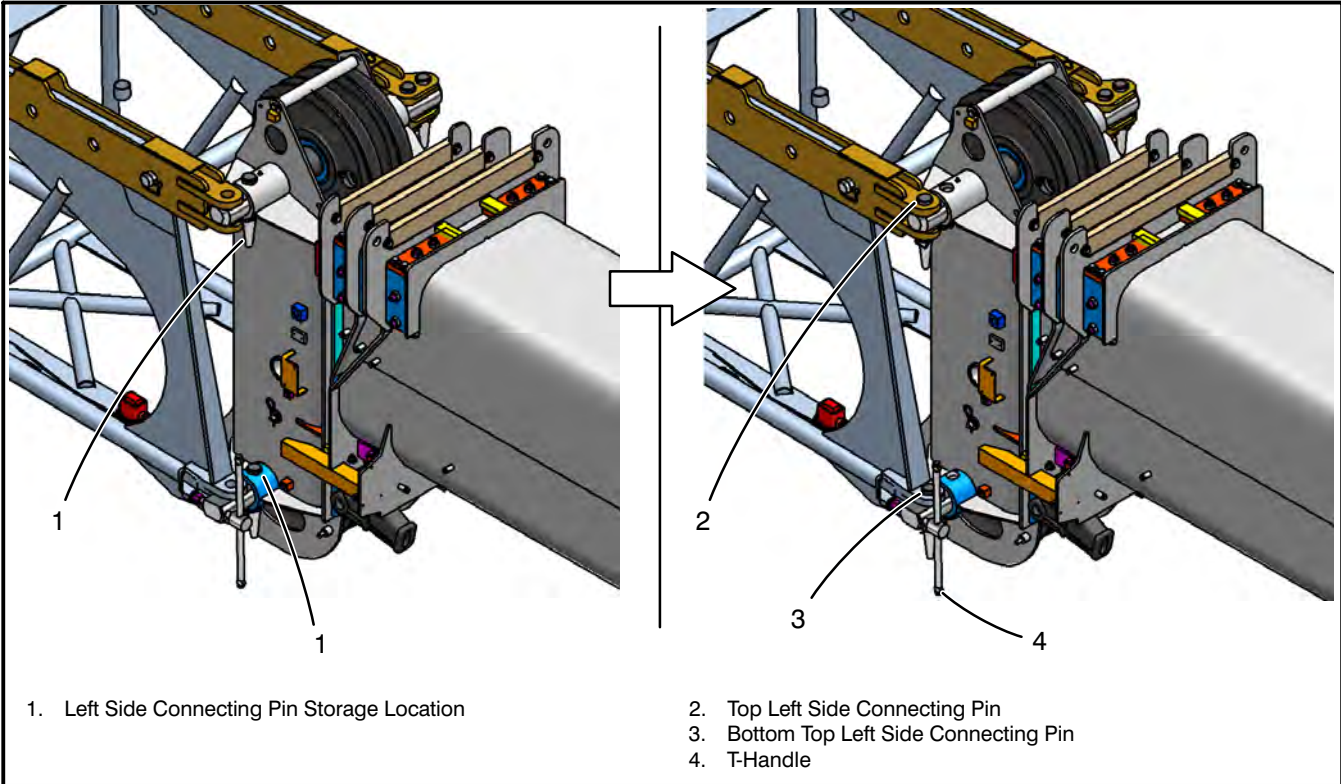

Figure 4-32
9. Remove the two fly connecting pins from the boom head machinery cross shafts on the left side of the boom head. Refer to Figure 4-32. Install the top pin to connect the fly lug to the top head machinery cross shaft on the left side of the boom head. Turn the t-handle to push and align the bottom left fly lug and the bottom boom head cross shaft. Install the bottom left fly connecting pin. (Install the pins with the head on top and keeper on the bottom.) Install the pin keepers.